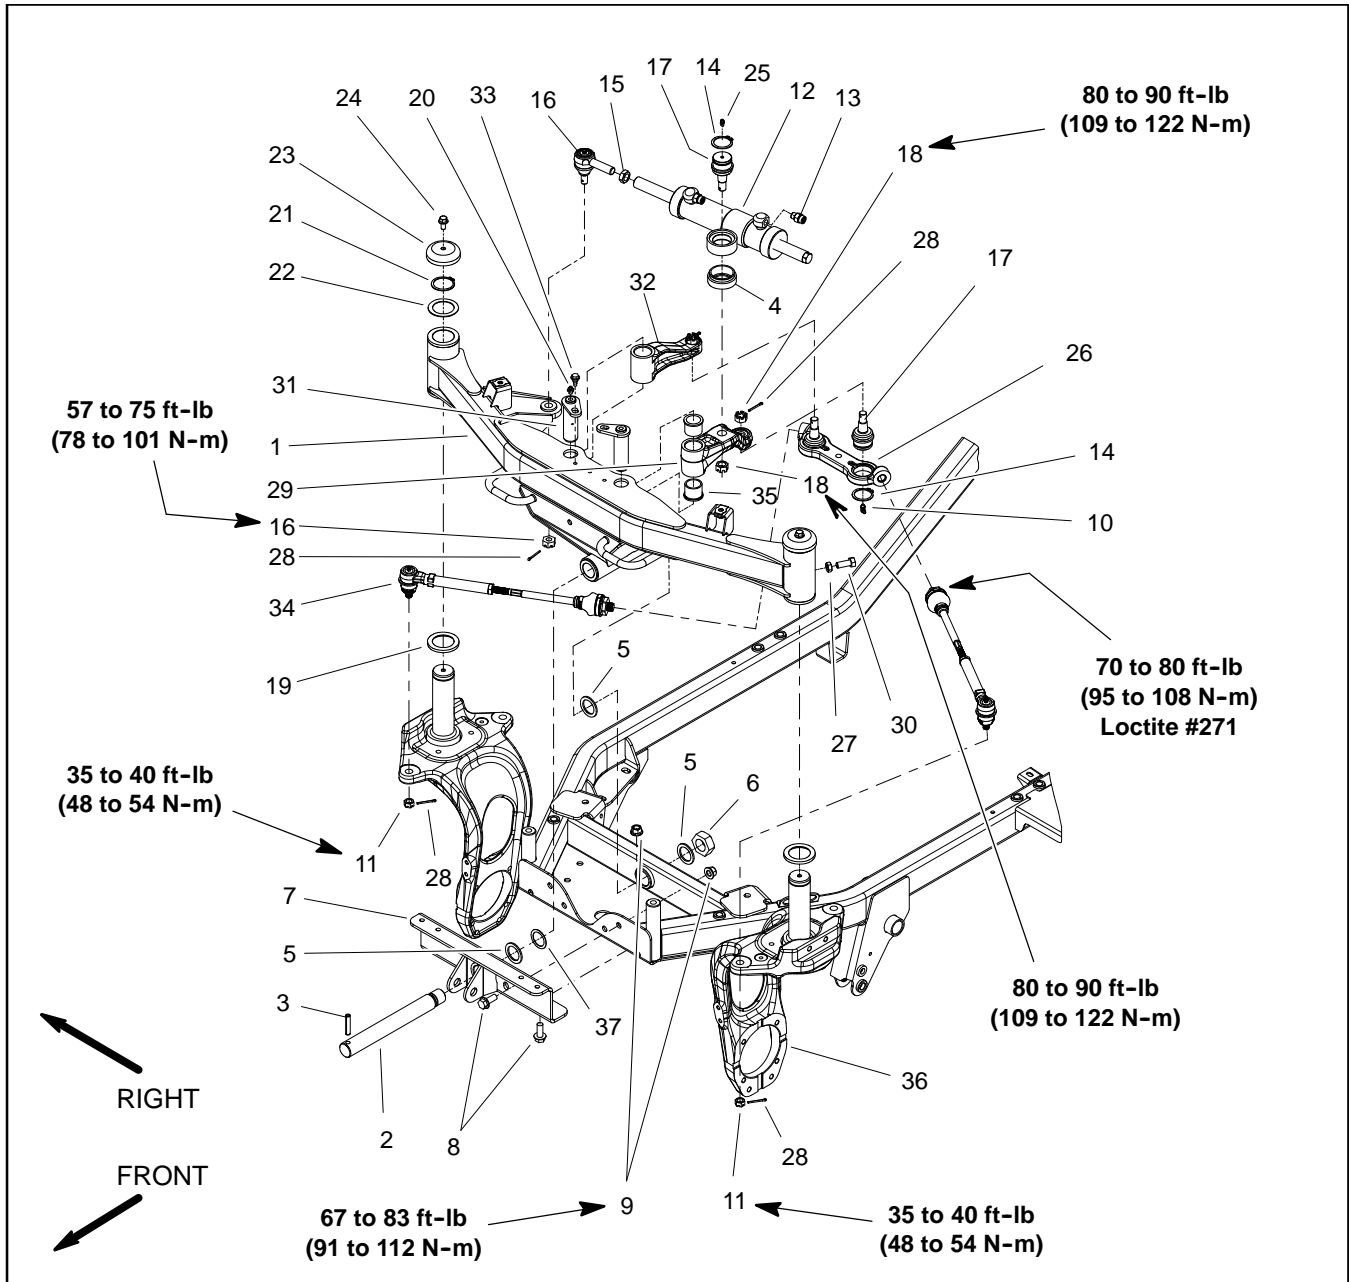
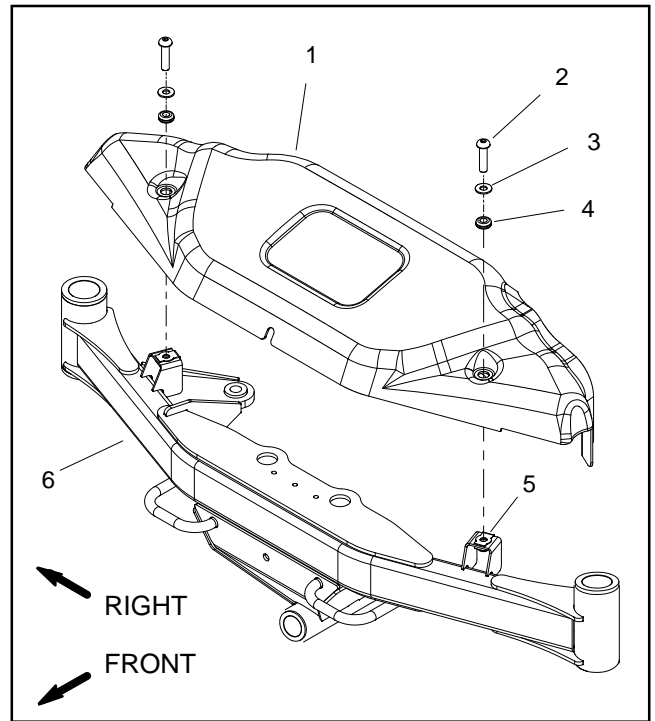
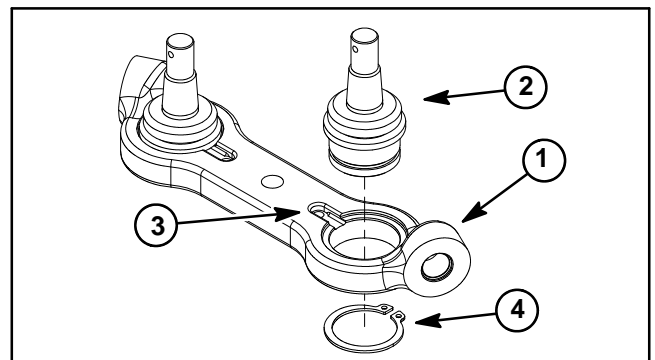

Figure 27
Figure 28
Figure 30
## Disassembly (Fig. 27)
2. Remove front cover from front axle to allow access to front steering components (Fig. 28).
8. To remove tie rod (item 34) from machine:
9. Remove additional front steering components as necessary using Figure 27 as a guide.
10. If bushings in the front axle (item 5 or 6 in Fig. 28), front axle LH arm (item 29 in Fig. 27) or front axle RH arm (item 32 in Fig. 27) are worn or damaged, replace bushings (see Steering Assembly Bushing Service in this section).
## Assembly (Fig. 27)
1. Install all removed front steering components using Figure 27 as a guide. Note torque specifications identified in Figure 27 during assembly. If front axle was removed from frame, use washers (item 37) so axle has less than 0.030" (0.76 mm) free play between frame and axle support. If ball joints were removed from center link, press new ball joints into center link from the side of the link that has a notch at ball joint bore (Fig. 30).
2. To install tie rod (item 34) to vehicle:
8. Install front cover to front axle (Fig. 28).